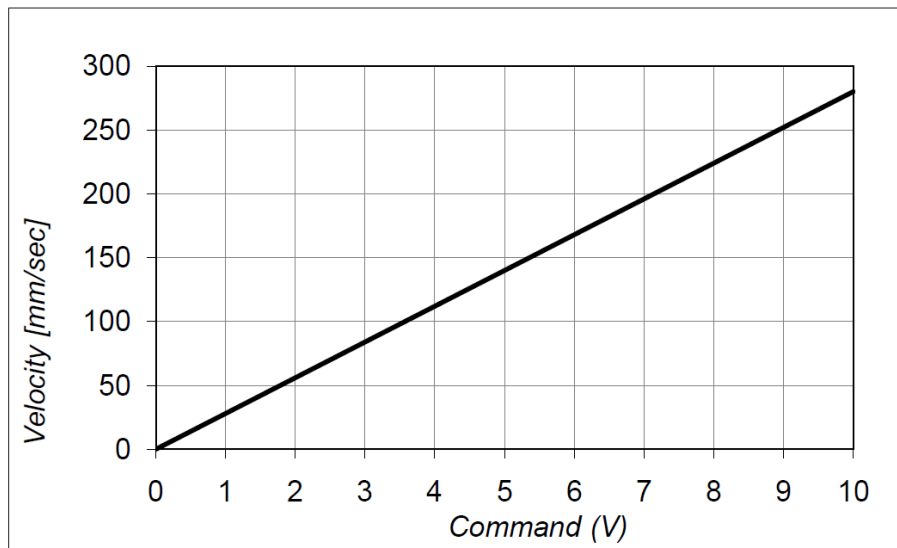

Figure 36: Motor Velocity vs. Command- Linear mode
- Motor velocity as a function of the applied AB7 at linear mode driver command voltage (See Figure 36). This allows for up to 300 mm/sec variations and can be used as a reference and guideline for expected motor performance.